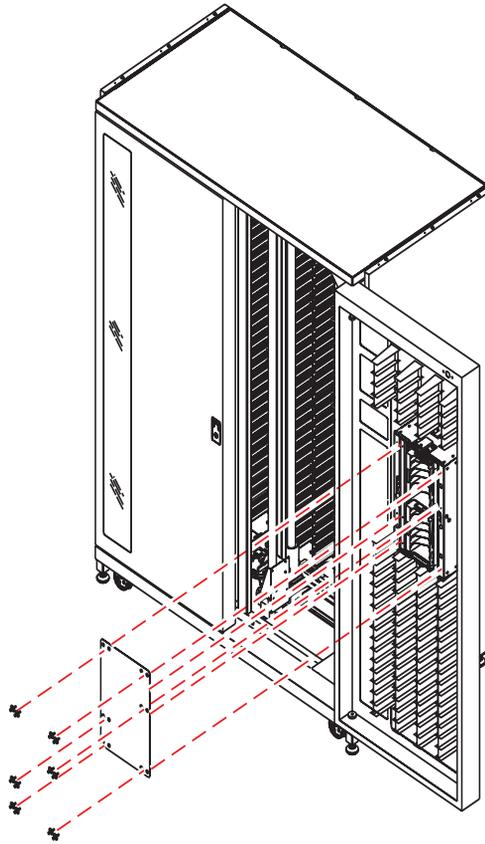

FIGURE B-2 Inserting the Shipping Plate
4. **Attach the shipping plate that protects the load port as shown in FIGURE B-2.**